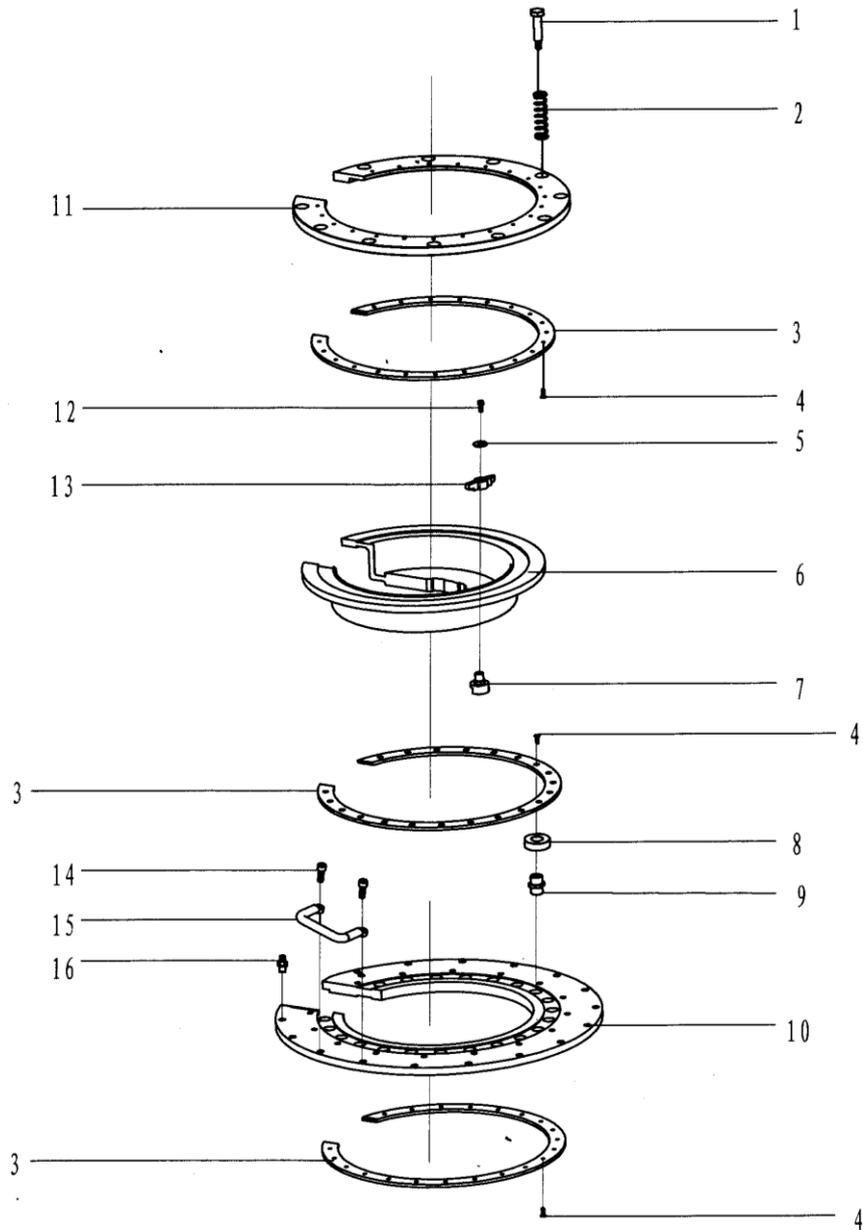

Fig5. tong head brake mechanism
7.2.3 Tong head brake mechanism(Fig5. Table5)